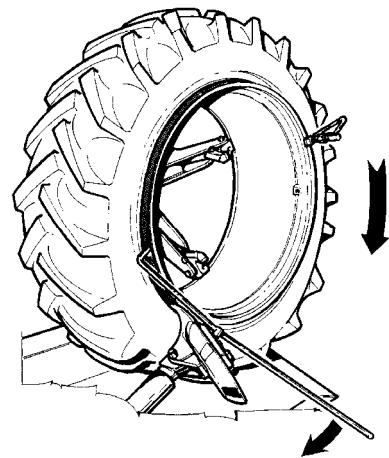

Fig.51
7. Place the hook tool as described in 5.5.2. Rotate the chuck clockwise till the bead is completely mounted. If necessary, use the bead bar to keep the bead in the drop center (Fig.51).